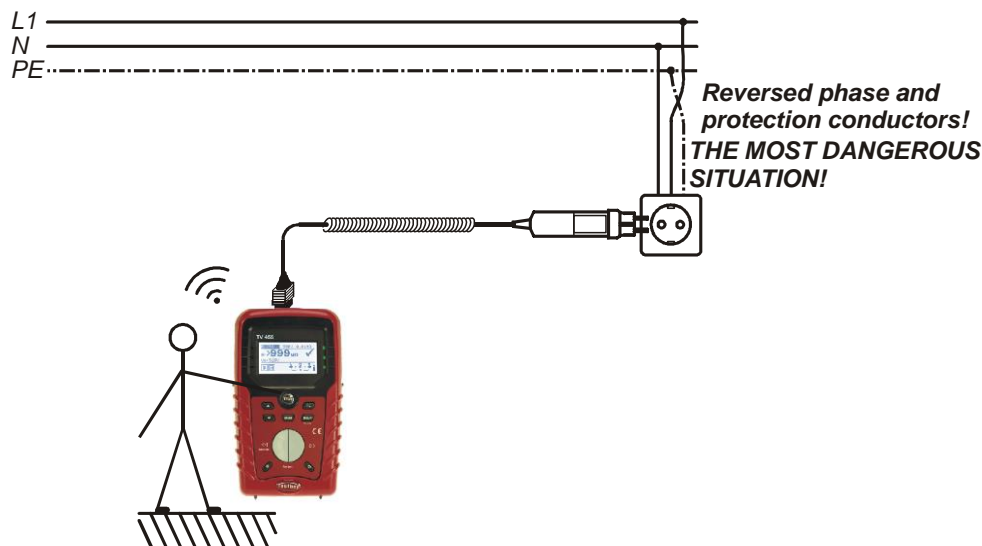

Figure 5.36: Reversed L and PE conductors (application of plug commander)
- ❑ **Connect** test leads to the item to be tested (see *figures 5.36 and 5.37*).